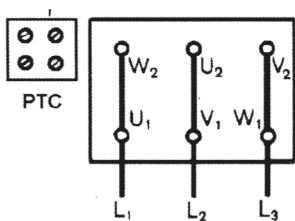

Fig. 7a
- The connection diagram for the electrical connections can be found in the terminal box (see also fig. 7a, b, c).